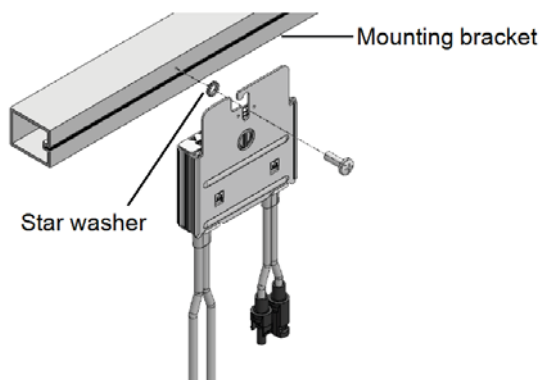

Figure 4: Power optimizer installation and grounding using a star washer
1. Determine the power optimizer mounting location and use the power optimizer mounting brackets to attach the power optimizer to the support structure (See Figure 4). For optimizers supplied with module frame-specific brackets, attach the power optimizer to the module frame following the instructions included with the optimizers.